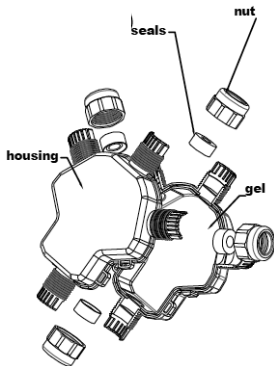

Fig. 1
- Before wiring, use a knife to cut 3 even marks in the casing (see Fig. 1)